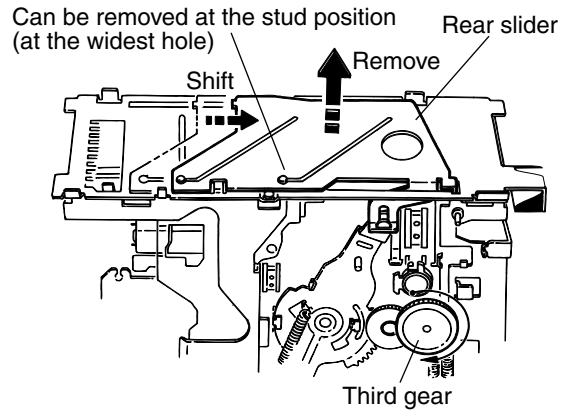

Fig. 15
■ **Rear slider (See Fig.15)**